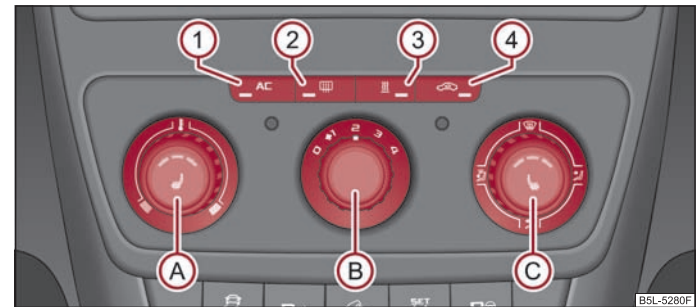

Fig. 104 The air conditioning system: Control elements
The cooling only operates if button  \Rightarrow fig. 104  is pressed, and the following conditions are met:
- Turn the control dial  \Rightarrow fig. 104 to the right in order to increase the temperature.
- Press the button   ⇒ fig. 104. The warning light lights up in the button.
- Controls A, B, C and the 1 button and 4 ⇒ page 93, fig. 104.
- Press the button  (4) ⇒ page 93, fig. 104 the warning light lights up in the button.
The recirculated air mode is switched off automatically if the air distribution control  is in position  ⇒ page 93, fig. 104. You can also switch recirculated air mode on again from this setting by repeatedly pressing pushbutton .